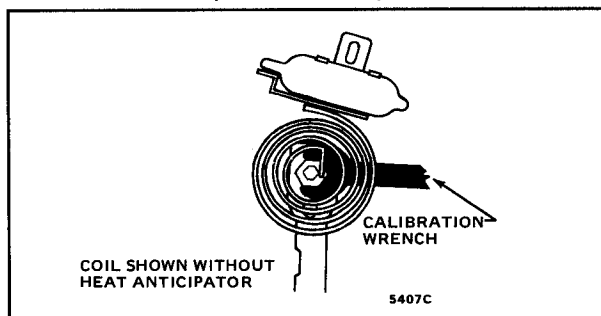

FIG. 10—RECALIBRATION PROCEDURE.
2. Insert 104994A calibration wrench (order separately) onto the hex nut under the coil (Fig. 10). Holding the setting lever so it does not move, turn the wrench clockwise  until the mercury rolls to the right end of the tube. Remove wrench and replace cover.